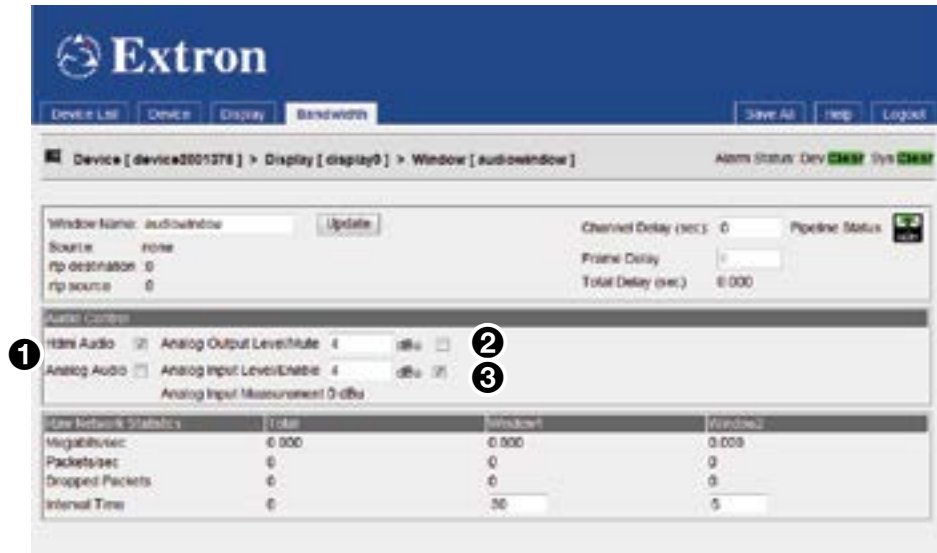

Figure 62. Bandwidth (audio) Tab
2. Click the bandwidth **audio** link (2). The Bandwidth (audio) tab opens. This is the same as the Bandwidth (video) tab but has an Audio Control panel (see figure 62):
3. Select the appropriate check boxes to output the received audio stream to the HDMI port, the Analog output port or both (see figure 62, 1).
4. The analog audio output level is controlled using Analog Output Level/Mute (2). The output level is correct if the input level on the encoder was correctly configured for optimum signal.
5. Select the input level for the reverse audio, using Analog Input Level/Enable (3). Set the value just larger than the maximum value that is being input. (For more information about the Bandwidth (audio) tab, see Decoder audio Bandwidth tab on page 63.)